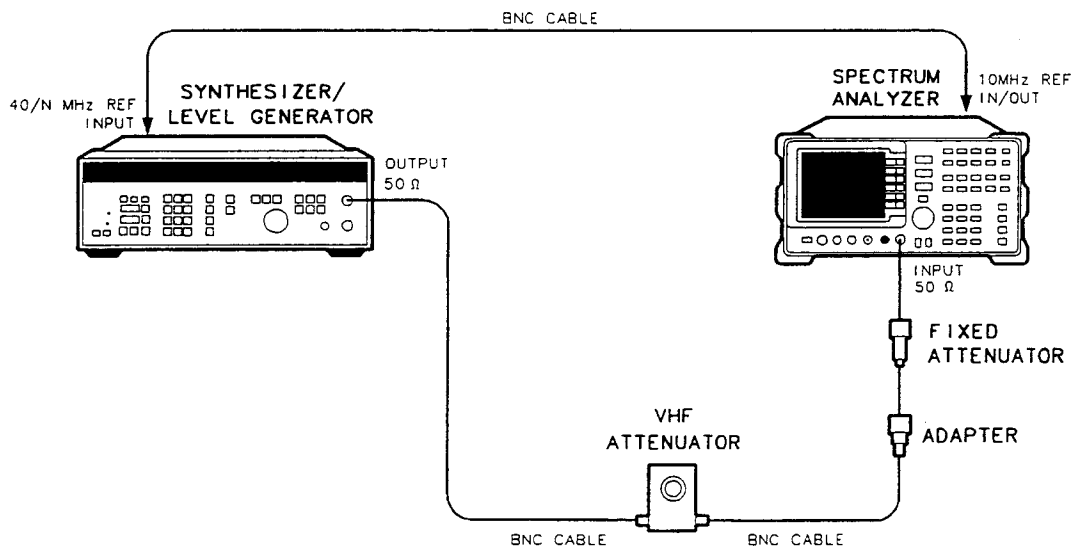

Figure 3-7. Input Attenuator Test Setup, 50 MHz
1. Connect the equipment as shown in Figure 3-7. The spectrum analyzer provides the frequency reference for the HP 3335A.